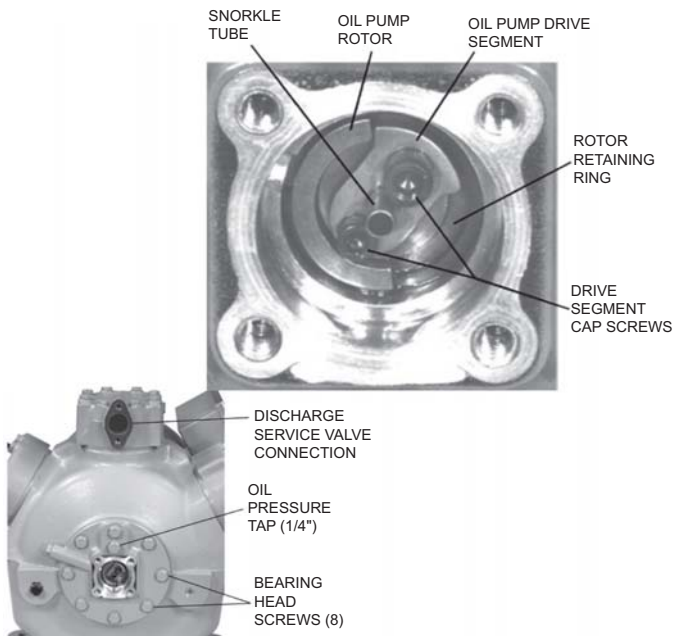
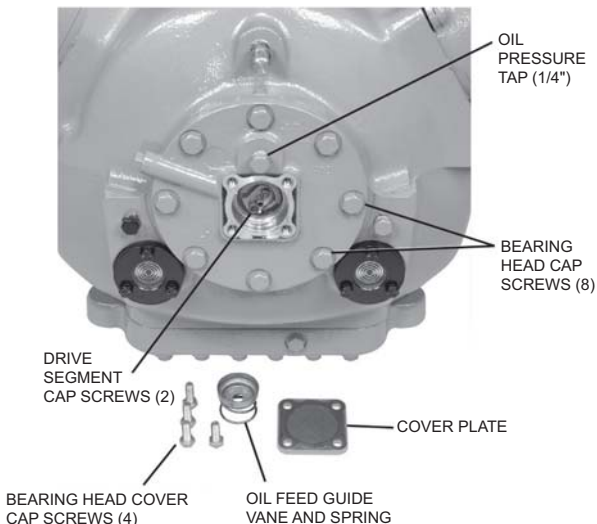

Fig. 6 — Removing Pump End Bearing Head (06D Compressor)
Fig. 7 — Removing Pump End Bearing Head (06E Compressor)
An oil pressure tap is located in the bearing head assembly used on all 06D refrigeration duty, newer 06D A/C duty, and all 06E refrigeration and A/C duty compressors (Fig. 6 and Fig. 7).
1. To disassemble, first remove four (4) cap screws from the bearing head cover plate and remove the oil feed guide vane and spring.
Remove the two (2) drive segment cap screws from the end of the crankshaft (see Fig. 6 and Fig. 7). **These screws must be removed before the bearing head can be removed.**
2. Remove the eight (8) cap screws holding the bearing head assembly to the crankcase. Remove the bearing head assembly by pulling forward.
IMPORTANT: The 1/4 in. snorkle tube should face away from the crankshaft (Fig. 6).